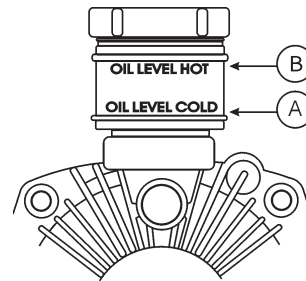

Figure 9. Transmission Reservoir
DO NOT over fill the fluid reservoir (Figure 9). Note the level marks on the reservoir. ***It is essential to reference the existing oil conditions (A) cold or (B) hot prior to operating the saw.*** Overfilling the transmission with hydraulic fluid may cause the seals to **rupture** causing mechanical damage.